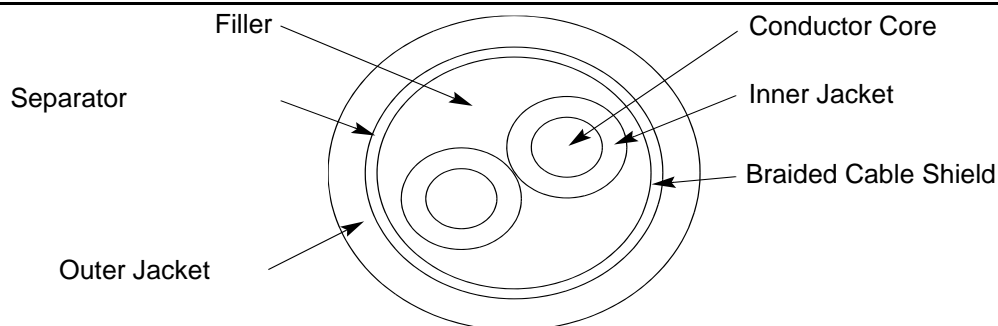

Figure 2
2.4. Cable and Subcomponent Specification (Figure 2)
NOTE Refer to Figure 2 for the various components of the cable as shown in an end view of the cable.